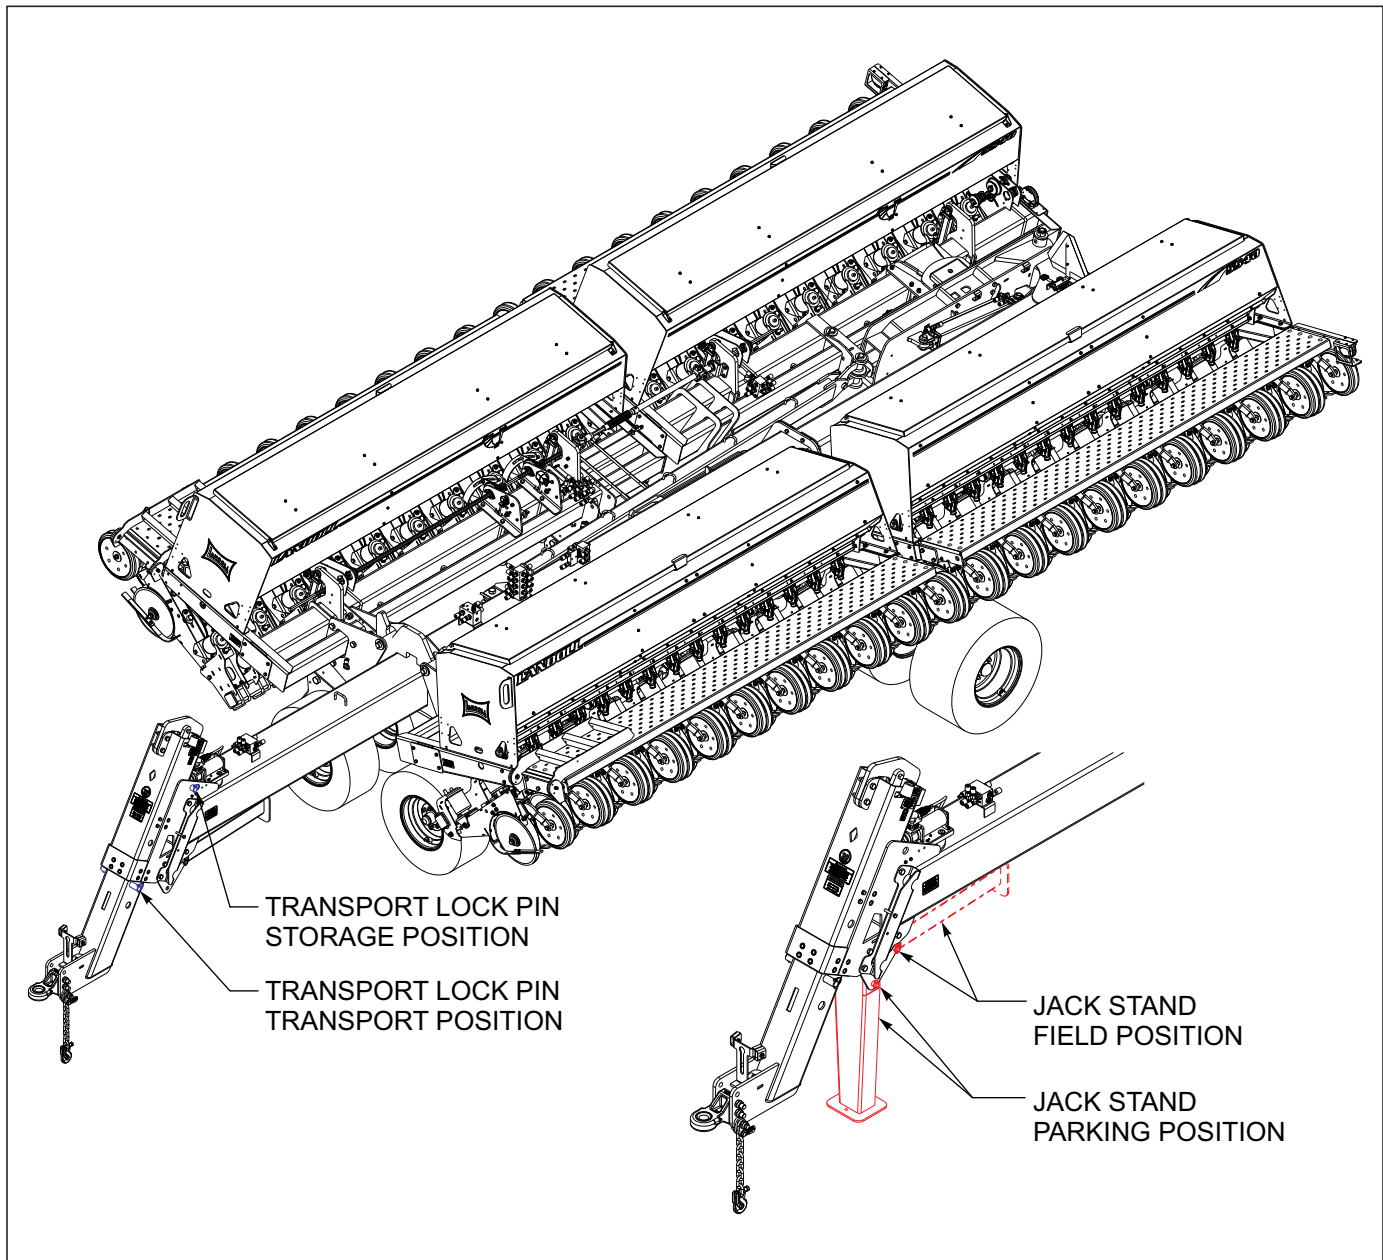

Figure 4-2: Telescoping Hitch Transport Locks
2. To install the telescoping hitch transport lock, fully raise the main lift and hitch. Remove the pin from the storage position and install through the hole in the telescoping hitch (*See Figure 4-2.*) Leave the weight of the drill on the hydraulic system while transporting. The pin will prevent any uncontrolled dropping of the hitch.
Be sure jack stand is in Field Position before pulling drill (*See Figure 4-2.*)
- a. Remove transport lock pins from telescoping hitch and place in storage locations (See *Figure 4-2.*)
- e. Install transport lock pins in the telescoping hitch to secure the Grain Drill (See *Figure 4-2.*)